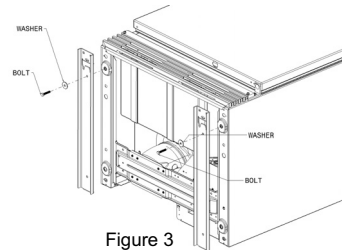

Figure 3
- Align the bolt with the threaded hole in the front right foot pad of the unit. Thread the bolt into the hole until finger tight (see Fig. 3).